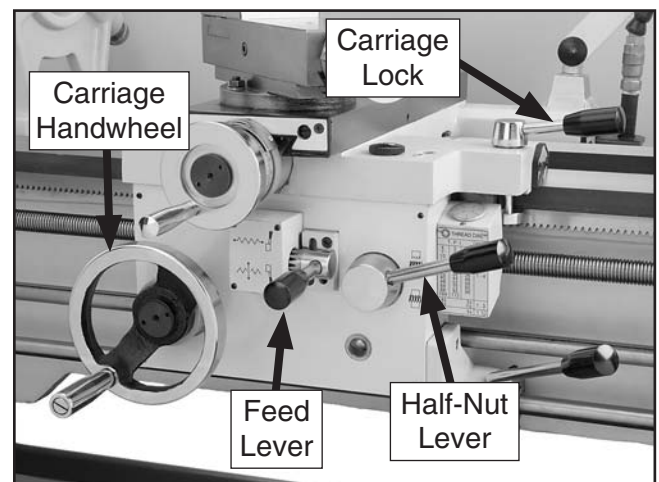

Figure 9. Carriage controls set for moving the carriage.
5. To further balance the load, loosen the carriage lock, make sure the feed lever is in the center (disengaged) position, the half-nut lever is in the up (disengaged) position, then use the carriage handwheel to move the carriage to the right (see **Figure 9**).